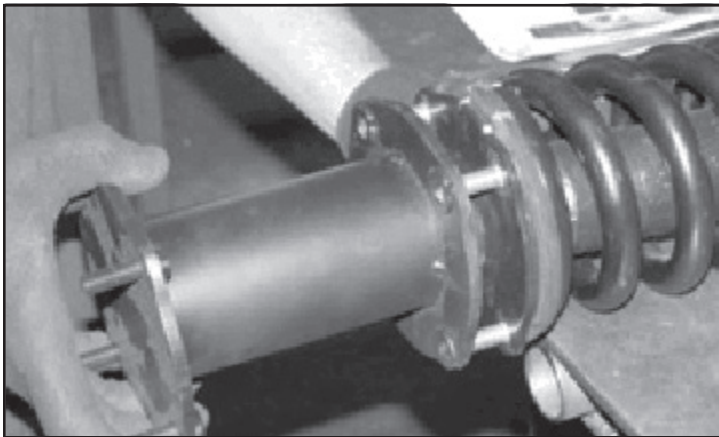

FIGURE 30 - STEP 37
37. Install the Driver side spacer on the driver side coilover using the factory hardware and torque to 35 ft-lbs. Repeat on the passenger side. **SEE FIGURE 30**